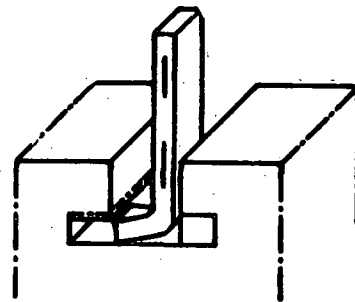

Fig. 6
- 2) In case the cutting tool is narrower than the width of the groove, return the table to the starting point (Fig. 6), lift or lower the clapper and continue cutting until the groove reaches the desired width.